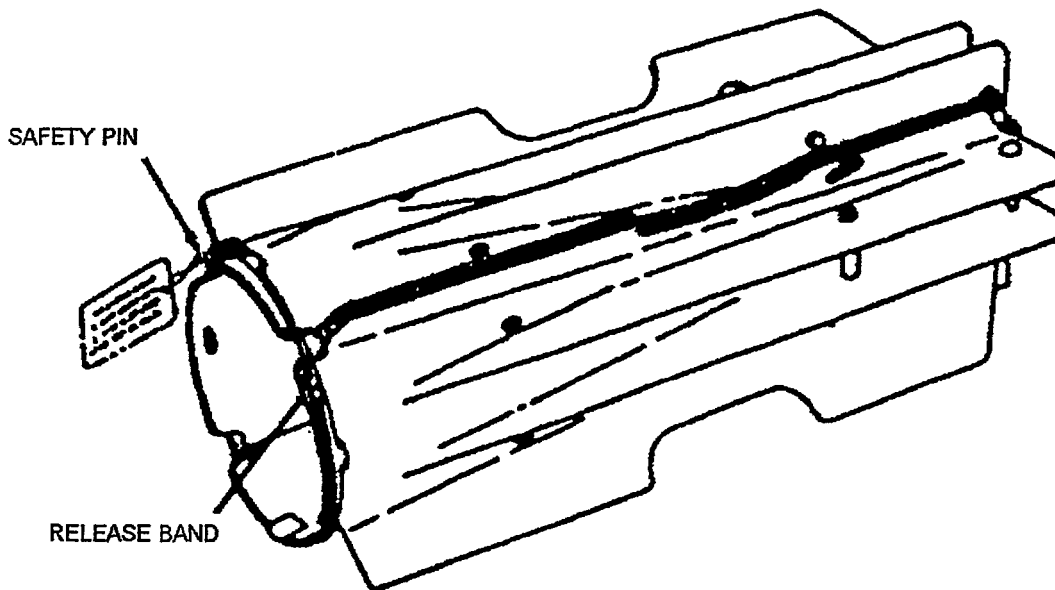

Figure 4-4A. Bomb Fin Mk 15
- Uncrate bomb fin and position fin on deck with release band latch up (Figure 4-4A). Retain crate for repacking (if applicable).